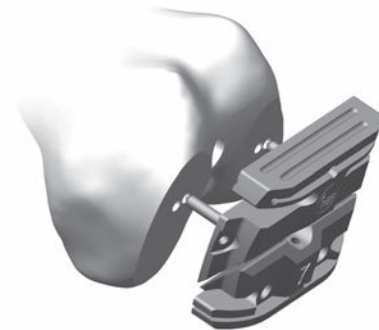

Fig. 126
- If additional adjustment with the Shift Block is desired, remove it from the bone, using an osteotome if necessary, and replace it in the newly drilled holes and repeat the drilling process. Otherwise, place the 4-in-1 Cut Guide in the newly drilled holes (**Fig. 126**) and perform bone resections.